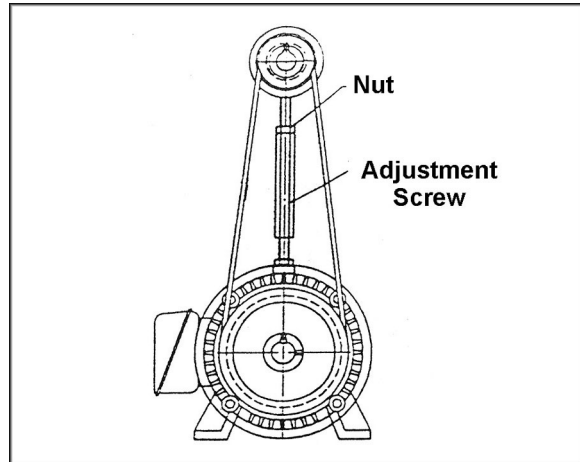

Figure 11
2. Open back panels to expose the motor, pulleys and belts, as shown in Figure 10. Loosen hex nut (Fig. 11) and turn the adjustment screw as needed to adjust the tension. Proper tension is achieved when there is a small amount of deflection by using moderate finger pressure on the belt midway between the pulleys.
3. Tighten hex nut (Fig. 11) and replace panels.